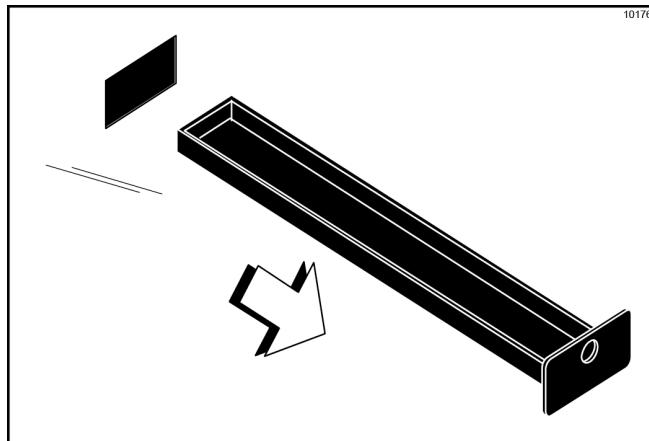

Figure-107
8. Remove the two short drip pans from the rear panel. Remove the two notched drip pans from the left and right side panels. Take them to the sink for cleaning. (See Figure-107.)